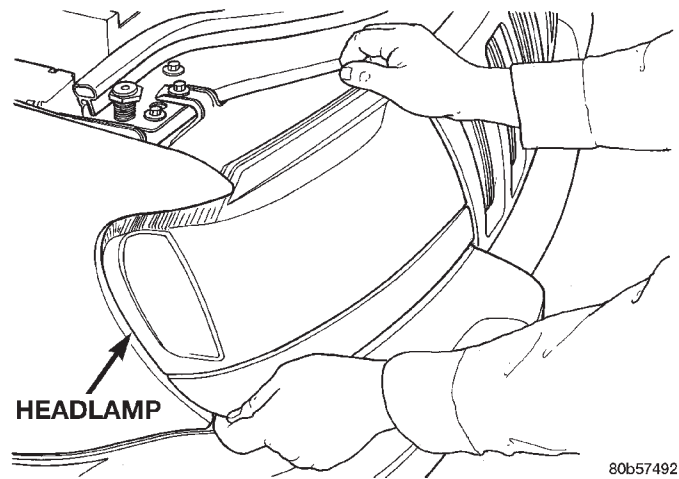

Fig. 2 Headlamp Removal
- (2) Grasp upper inboard and lower outboard corners of headlamp (Fig. 2) and forcefully pull headlamp outward.
- (3) Remove all bulb sockets from headlamp module.
- (4) Separate headlamp from vehicle.